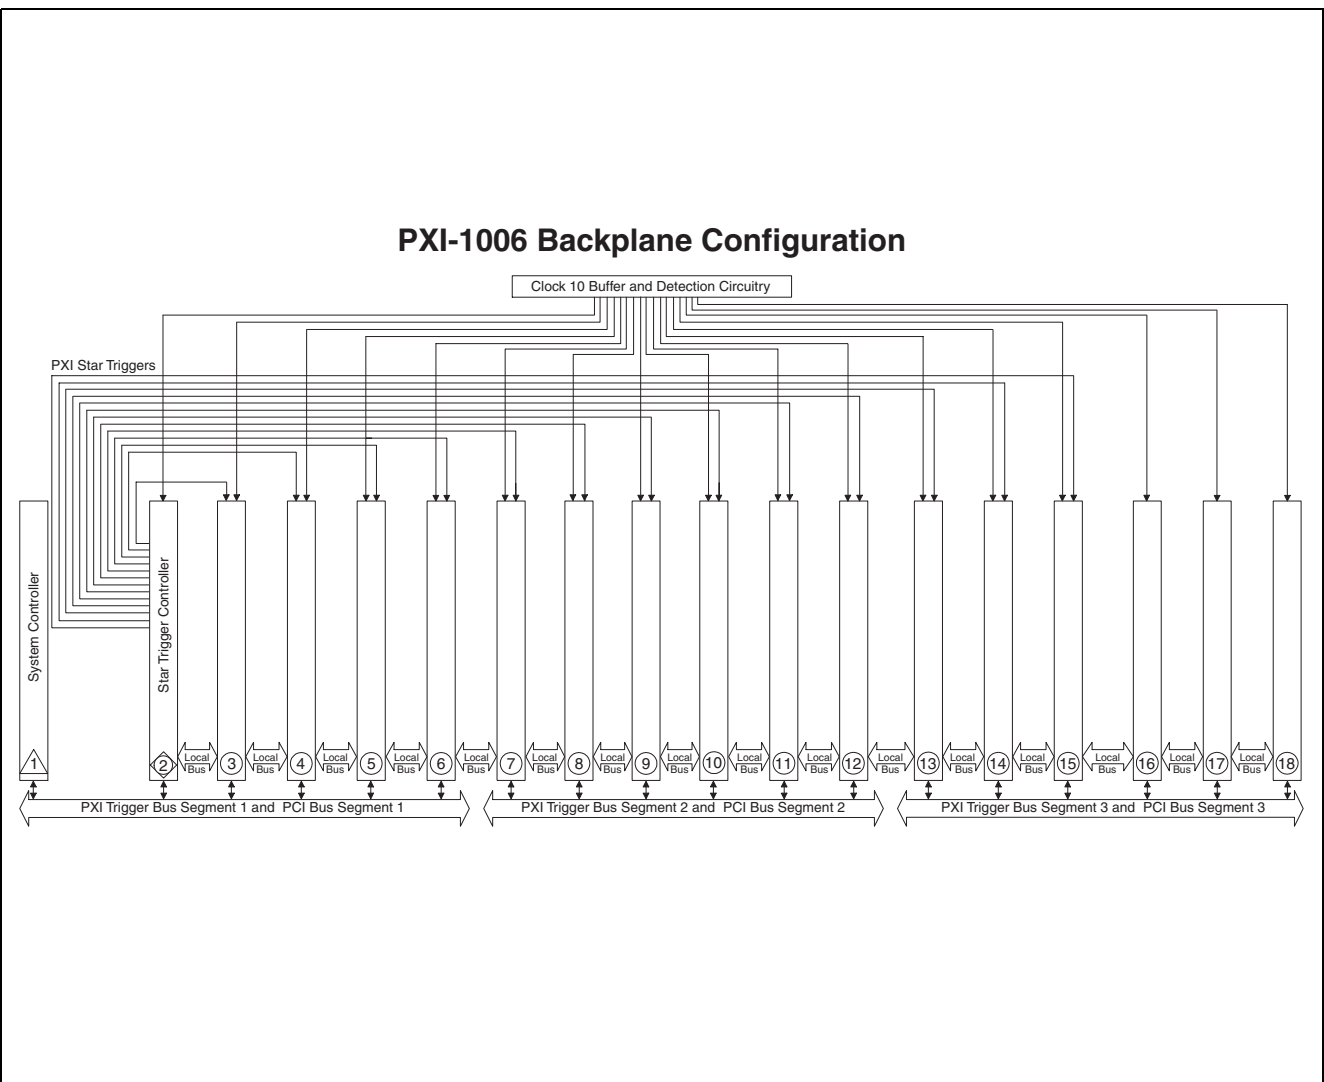

Figure 2-3. PXI Local Bus and Star Trigger Routing
| Figure 2-3. | PXI Local Bus and Star Trigger Routing..... | 2-5 |
The Star Trigger (ST) slot is Slot 2. This slot has a dedicated trigger line between itself and slots 3-15. Slots 16-18 do not use the Star Trigger functionality because there are 13 Star Trigger lines, as specified in the PXI specification (see Figure 2-3). This slot is intended for modules with ST functionality that can provide individual triggers to the peripherals installed in slots 3-15. However, if you do not require advanced trigger functionality, you can install any standard peripheral module into this slot.
The PXI backplane's local bus is a daisy-chained bus that connects each peripheral slot with its adjacent peripheral slots to the left and right, as shown in Figure 2-3.
The PXI-1006 has local bus connections between all slots except slots 1 and 2, in accordance with the PXI specification. See Figure 2-3 for details.